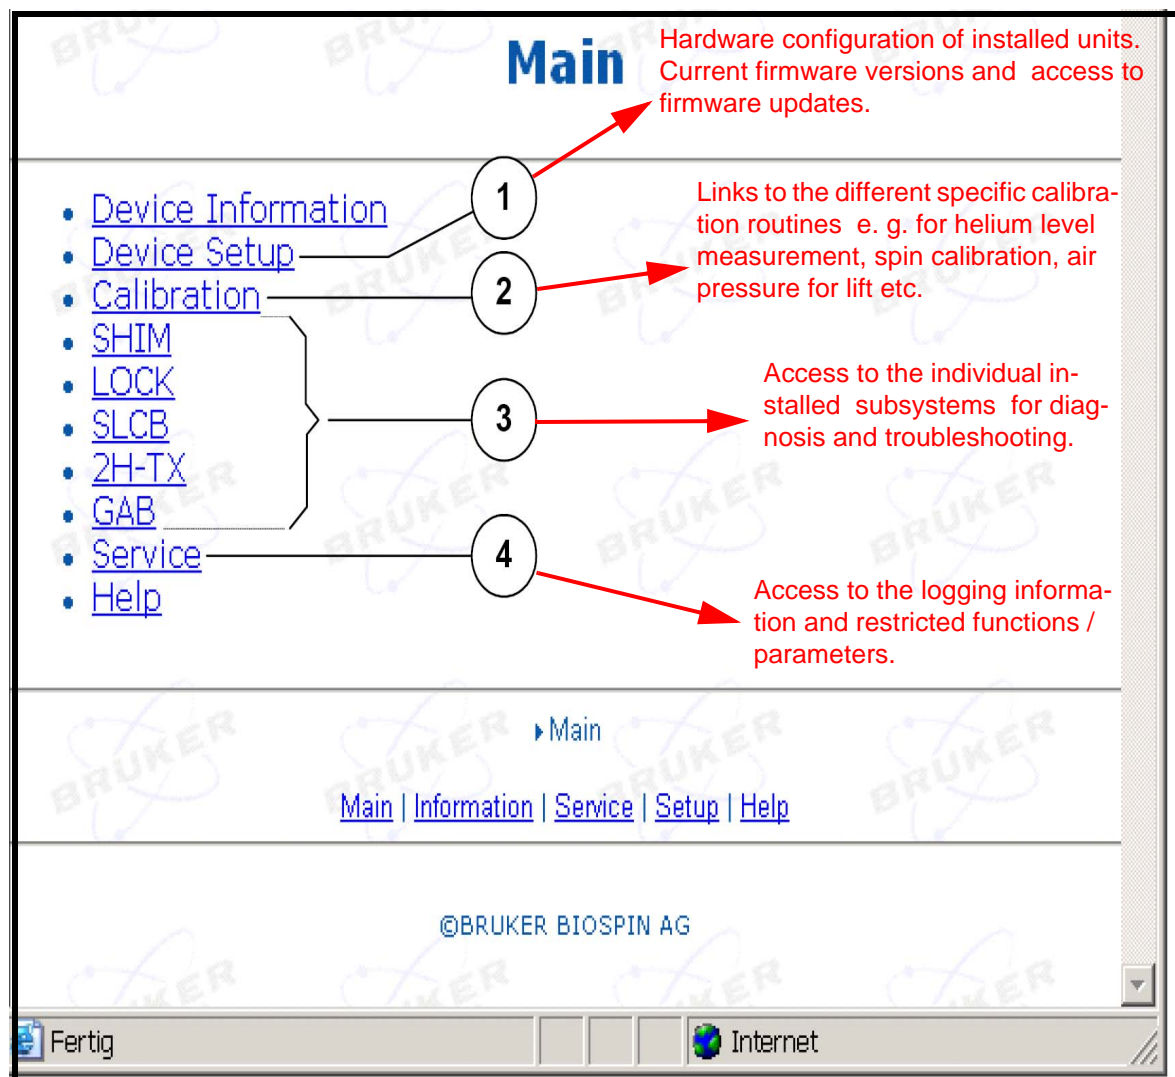

Figure 6.3. BSMS Service Web Overview
2. Check the BSMS service web see Figure 6.2. and Figure 6.3.